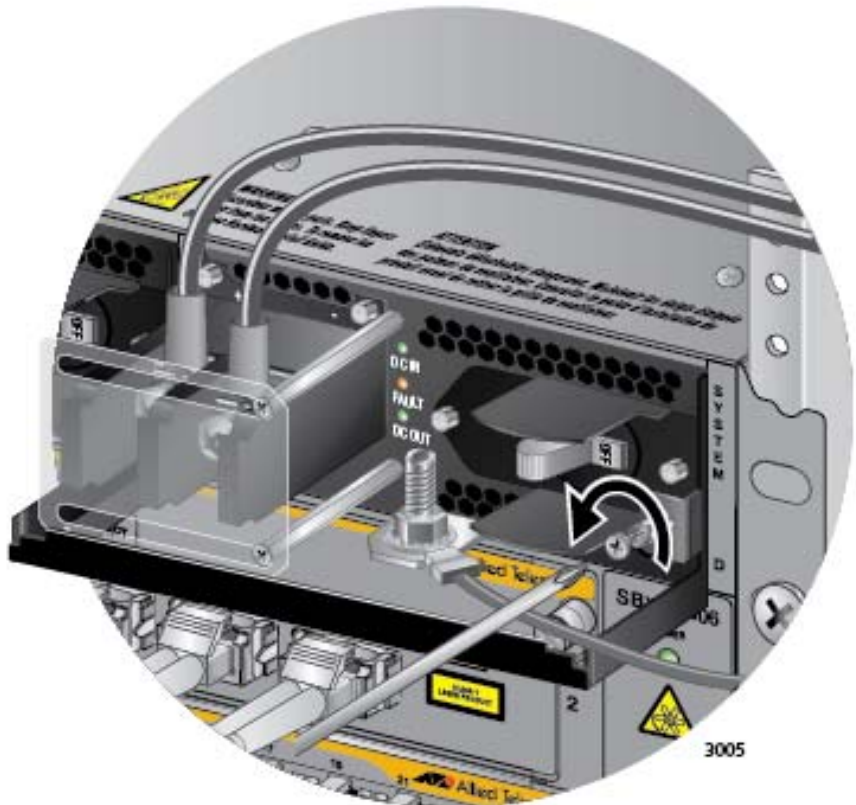

Figure 160. Loosening the Screw on the Locking Handle
3. Use a #2 screwdriver to loosen the screw on the locking handle. Refer to Figure 160 on page 259.